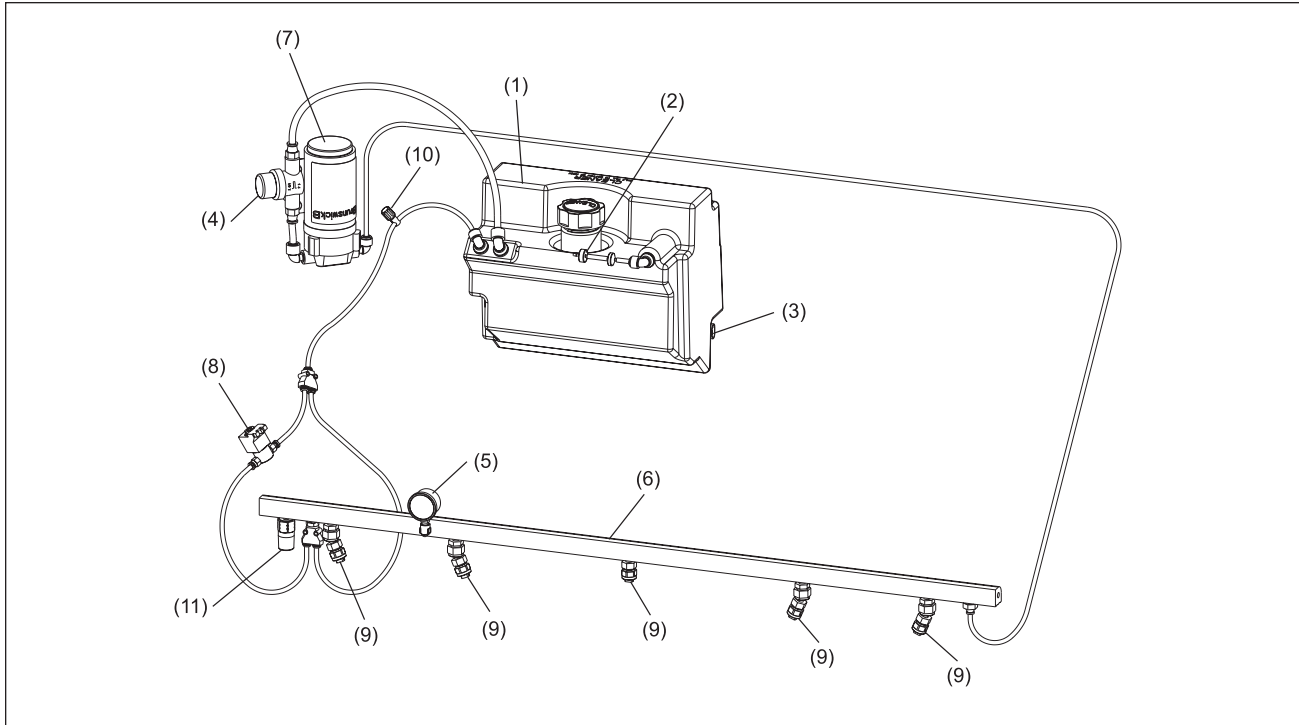

Figure 2-4. Cleaner Spray System
- The **cleaner spray nozzles** apply a continuous spray of cleaning fluid to the lane. Refer to Figure 2-4.